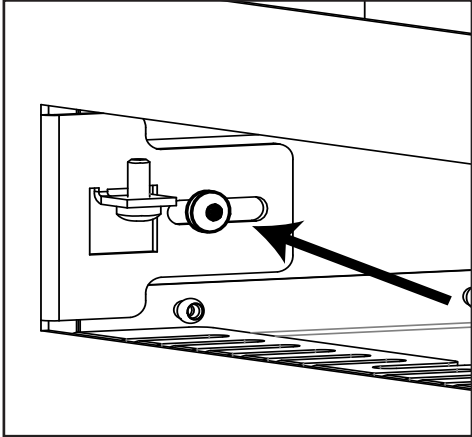

Figure 23: Outlet Trim Bezel Screw
Step 2: Using a T20 screwdriver, remove the screw on each side of the CSS outlet retaining the Outlet Trim Bezel and remove the Bezel (Figure 23).